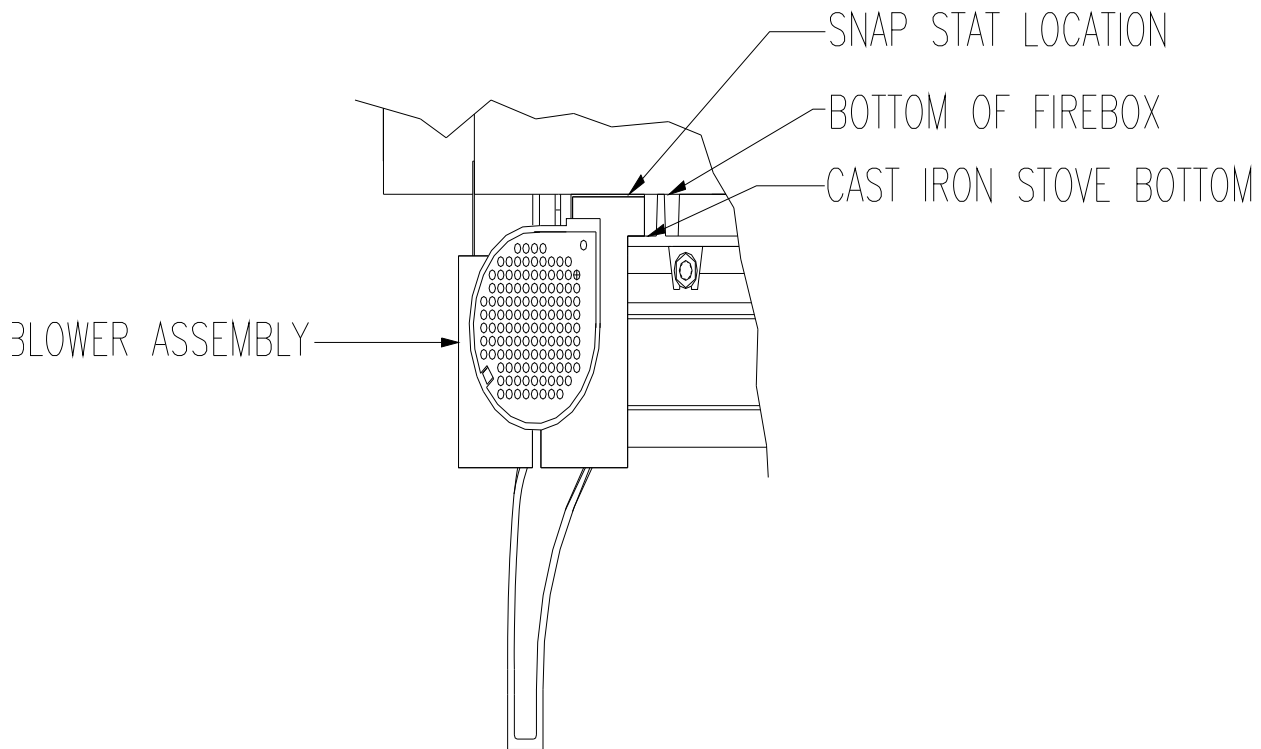

Figure 1: Snap Switch Location
2. Slide the blower unit into position so that the temperature sensing snap switch is sandwiched between the cast iron base and steel bottom (as illustrated in Figure 1).